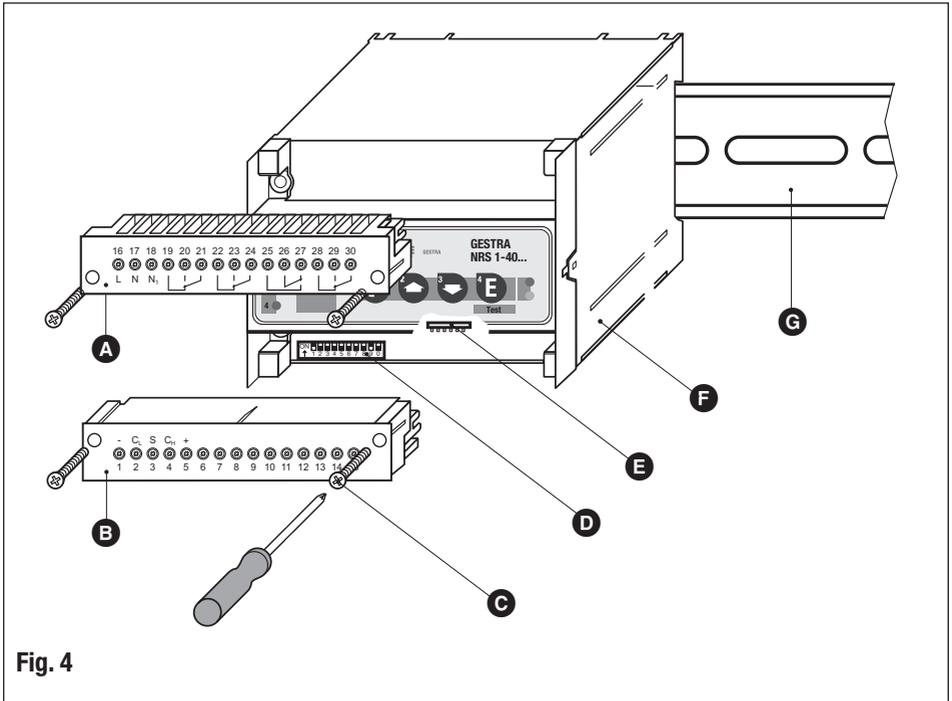

Fig. 4
1. Unplug the upper **A** and lower terminal strips **B**. (see **Fig. 4**)
3. Set code switch **D** and **E** as required, **Fig. 4**.
The control unit NRS 1-40.1 / NRS 1-40.2 is clipped onto a support rail **G** type TH 35, EN 60715 in the control cabinet. (see **Fig. 4**)
The baud rate is set via code switch **Ⓓ Fig. 4** (S 8 to S 10). Default factory setting of control unit NRS 1-40.1 / NRS 1-40.2: baud rate 250 kBit/s (cable length up to 125 m). For longer cable lengths reduce baud rate accordingly.
To change the baud rate undo the left and right fixing screws, and detach the lower terminal strip. Set the baud rate via code switches **Ⓓ** S 8 to S 10 as specified in the table in section “Bus cable, cable length and size” by using a thin blade screwdriver, **Fig. 4**.
Set the baud rate via code switch **E** **Fig. 4** (S 1 to S 6) as specified in the table by using a thin blade screwdriver.